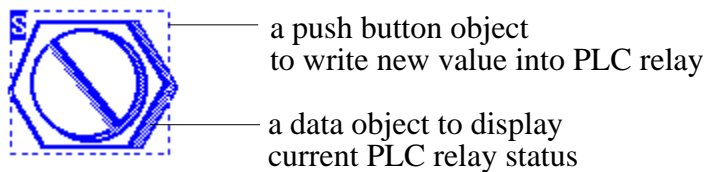

Fig. 3-16: Push Button Object
- 6) Click on the **OK** button. A push button object is created and displayed as show in Fig.3-16. A complete push button includes two objects, one data object and one push button object; both objects refer to the same PLC address.